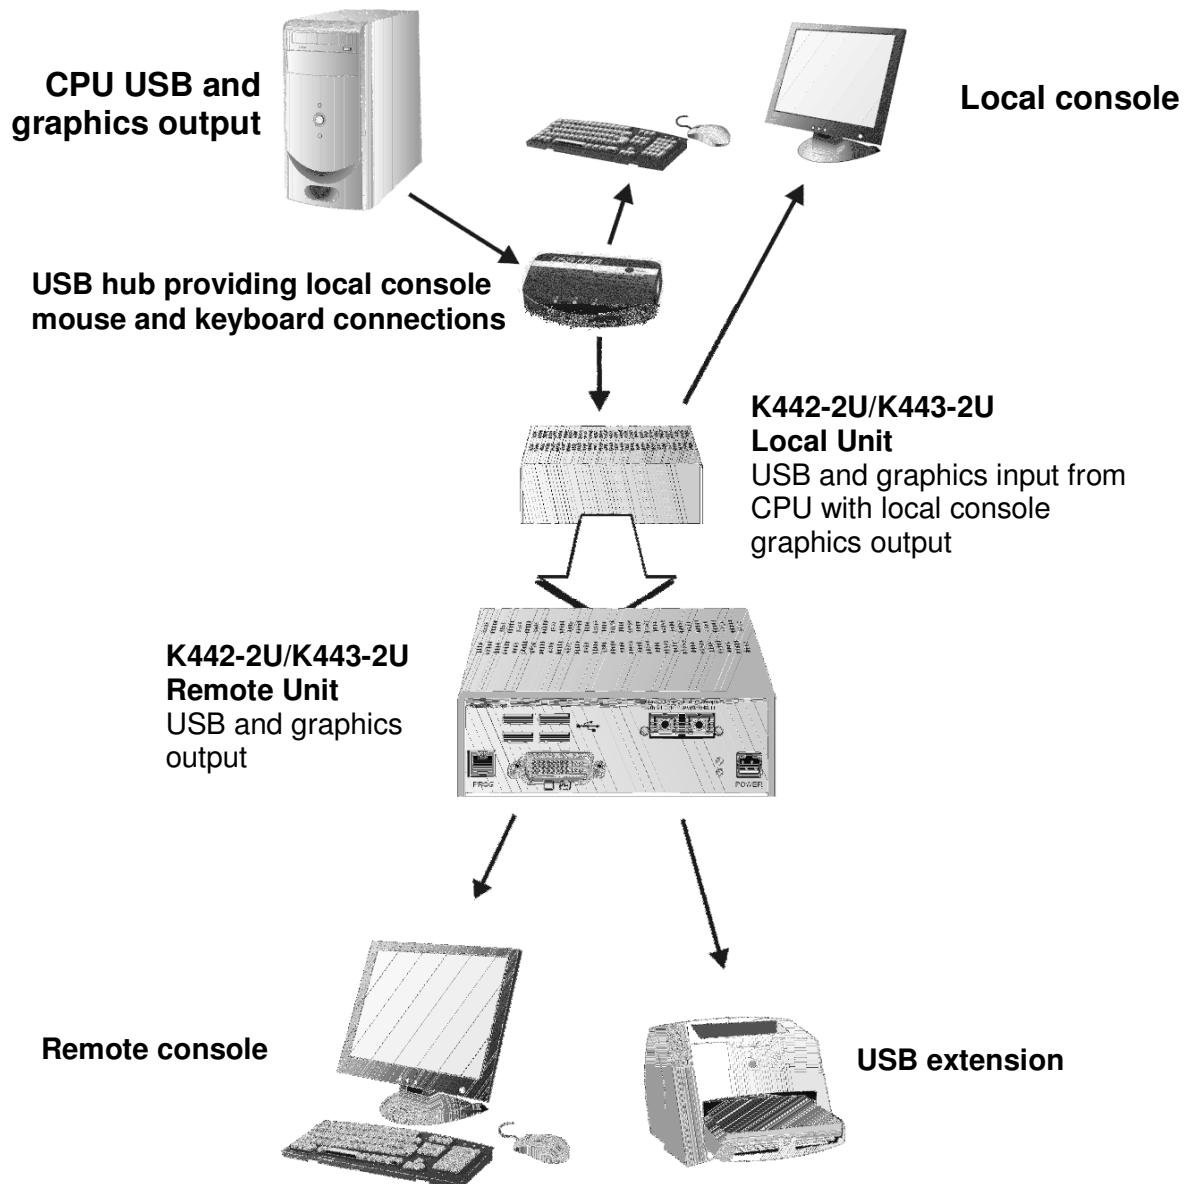

Figure 22 USB extension with local access
- USB fiber with local access (Figure 22).